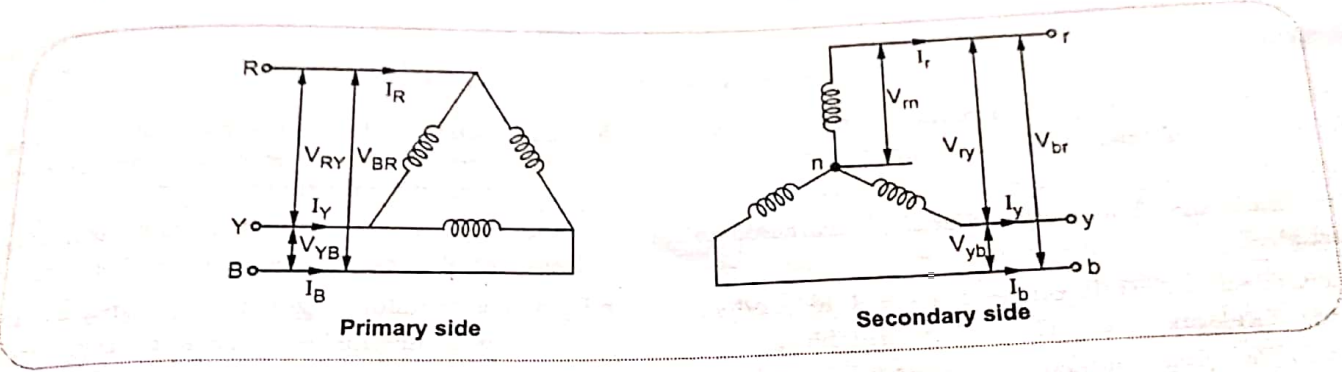

Fig. Q.28.4
- In this, the primary is connected in delta fashion while the secondary is connected in star fashion as shown in the Fig. Q.28.4.